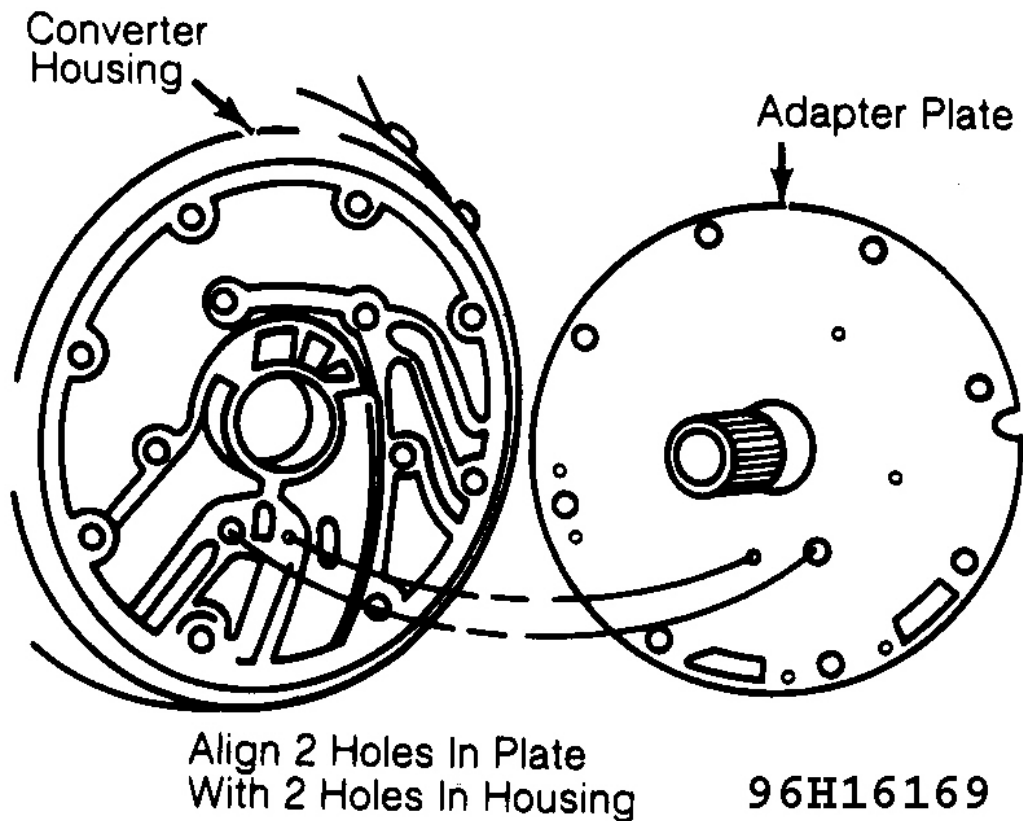

Fig. 38: Correct Positioning of Adapter Plate on Housing
11. Position steel plate on oil pump in exact position required. See **Fig. 38** . Install complete assembly to converter housing and tighten retaining bolts finger tight.